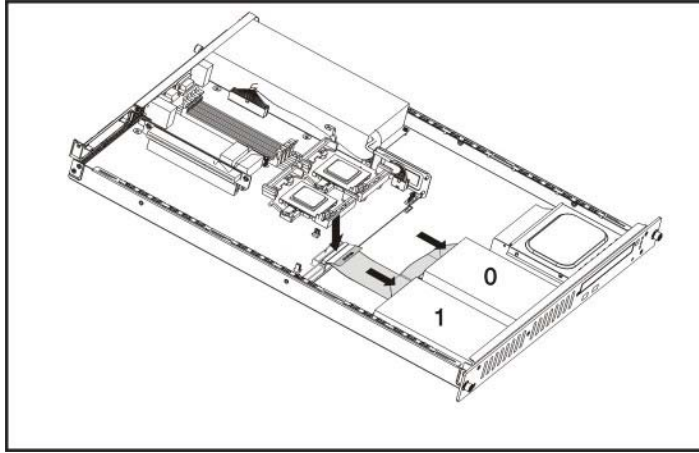

Figure 3-11: Cabling the ATA hard drives
- Identify the hard drive tray for ATA hard drive installation. ATA hard drives in the server appear as Devices 0 and 1, from right to left when viewed from the front of the server. Refer to Figure 3-11.